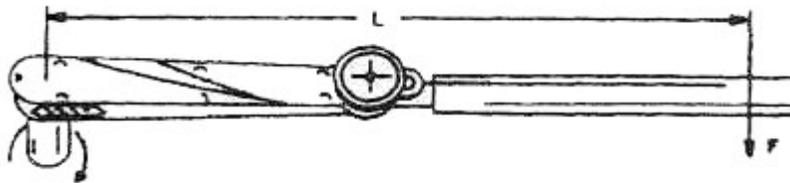

Figure 4-16. Adaptor Attached to Handle End of Wrench
- 10. This handle extension does not affect the dial reading although it does increase the torque. No correction is necessary because factor "E" is not changed. (See Figure 4-16.)